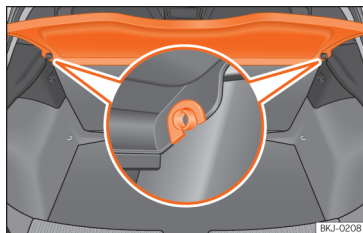

Fig. 140 In the boot: removing and installing the shelf.
- Remove the rear shelf from the side supports >>> **Fig. 140** by pulling it upwards and then take it out.
- Insert the cover horizontally so that the “recess” fits onto the axis of the supports >>> **Fig. 140** and press down until it engages.